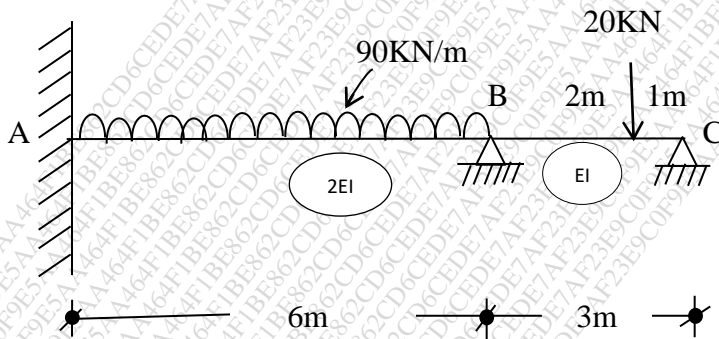

Fig :1
- Q.9 Draw the BMD of the continuous beam shown in fig.1 by stiffness matrix method. 15